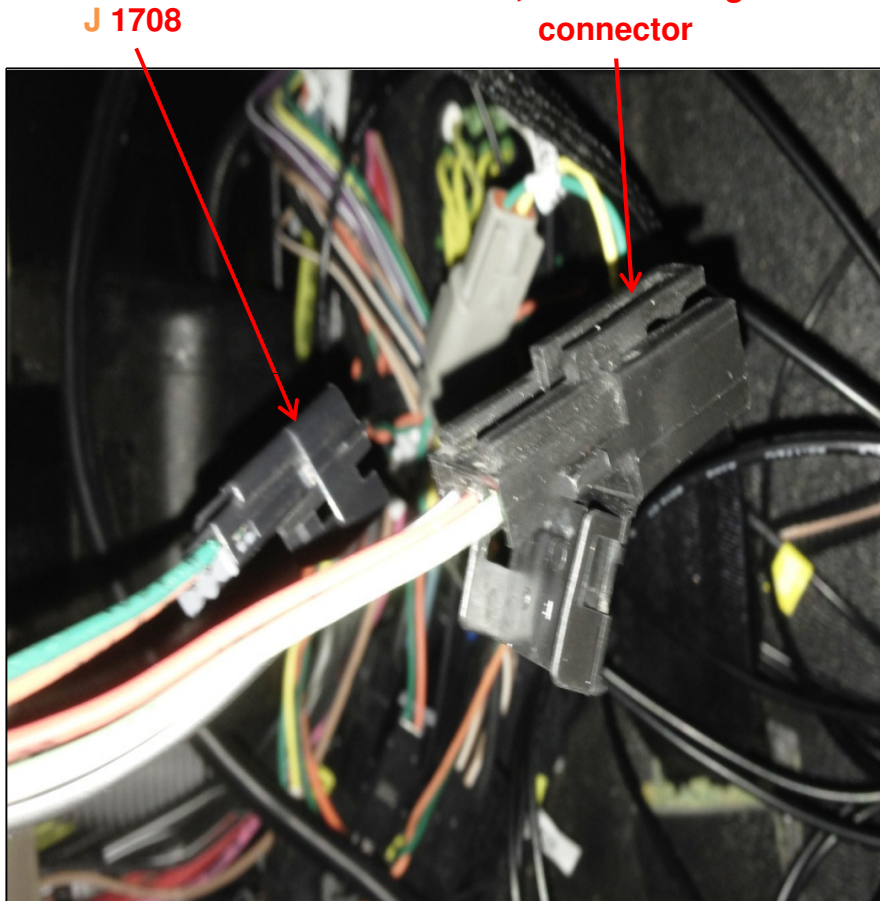

Figure 1
3. Route DTY20 power and ground wires to source; behind drivers seat “B” pillar access panel, shown in “Figure1”.
6. Route J1708 wires, as shown in “Figure1”.